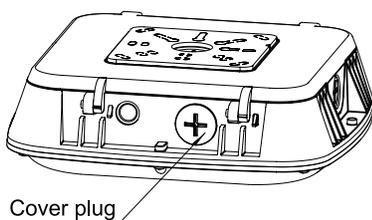

Fig. 1
1. Remove the selector switch cover plug as shown in the figure (Fig. 1).